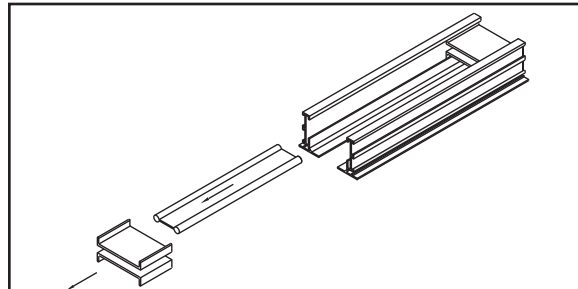

Figure 17. Removal of Pattern Controller
- Remove the Pattern Controller(s) as shown in Figure 17.